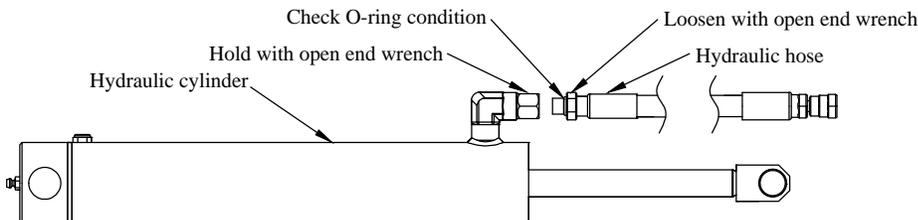

Figure 5: Hydraulic hose and cylinder.
7. **REMOVE** the hose from the cylinder (only if replacing the complete cylinder) (Figure 5).
8. **VERIFY** that the hose and O-ring are in good condition and free of cuts or wear marks (Figure 5).
1. **LUBRICATE** the hose O-ring, if previously disconnected (Figure 5).
2. **ATTACH** the hose to the cylinder, if previously disconnected (Figure 5).